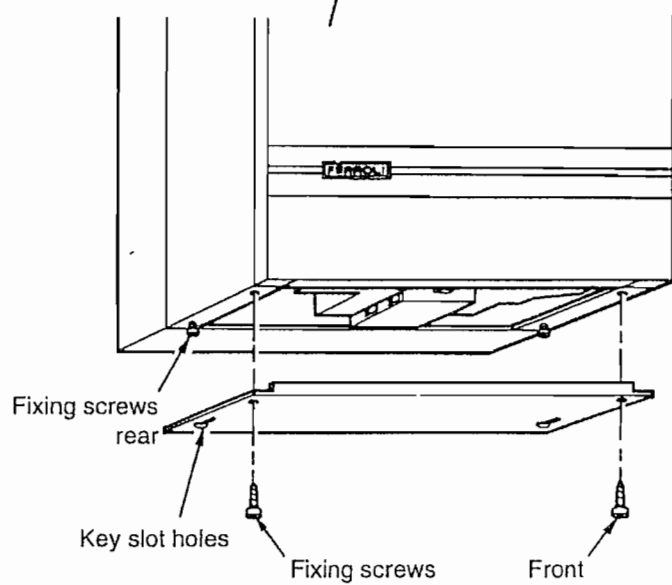

Fig. 16
- 4.2 Remove the boiler base plate, four screws (fig. 16). Remove the plugs fitted to the boiler water connections. Remove the bag of sealing washers from the boiler pipe work.
- 5.3 Remove the boiler base plate, four screws (fig. 16). Remove the plugs fitted to the boiler water connections. Remove the bag of sealing washers from the boiler pipework. Remove the front panel by gripping on both sides and pulling away from the main boiler.